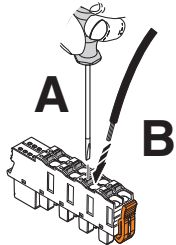

Figure 6-3 Connecting a stranded cable
- When using stranded cables: Open the spring by pressing the screwdriver onto the spring lever (Figure 6-3, A). Use, for example, a bladed screwdriver with a blade width of 2.5 mm. Phoenix Contact recommends the SZS 0,4x2,5 screwdriver (see Section "Ordering data" on page 111).
- Insert the cable in the terminal point (B).